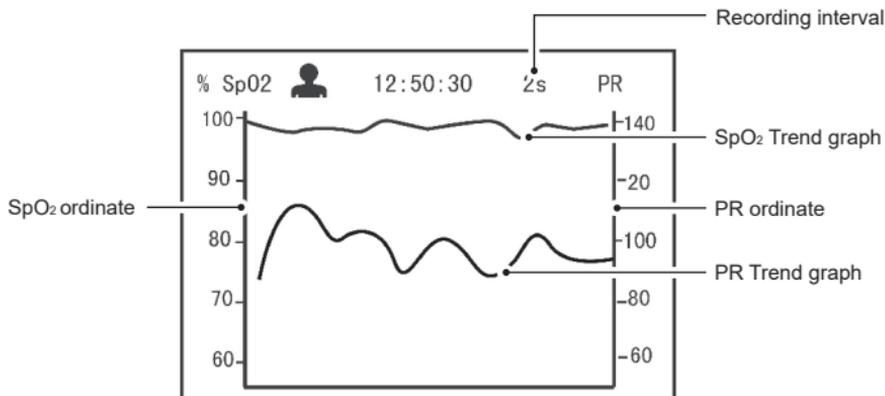
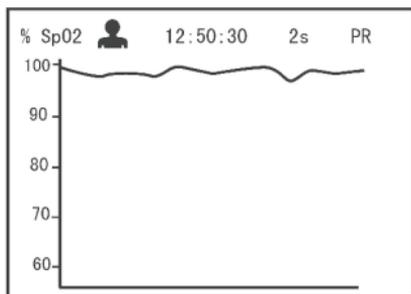
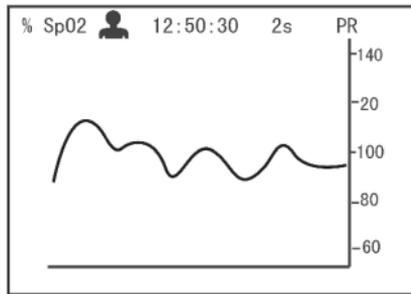

Figure 4-9A Trend Graph Display Screen
Figure 4-9B Trend Graph Display Screen
Figure 4-9C Trend Graph Display Screen
Choose one record in the record list, then press “” (mode/OK) key, the display screen will display trend graph, as shown in Figure 4-9A.
- Short time press “” mode/OK key to shift the trend graph screens (as shown in Figure 4-9A , Figure 4-9B and Figure 4-9C)